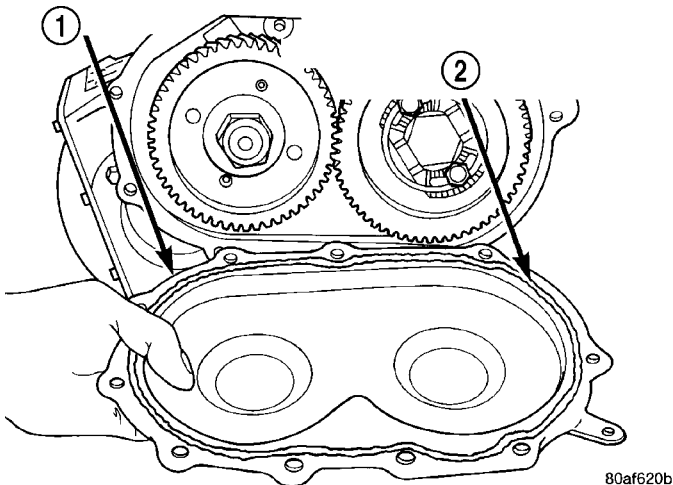

Fig. 51 Remove Rear Cover
(36) Remove transfer gear cover (Fig. 51).